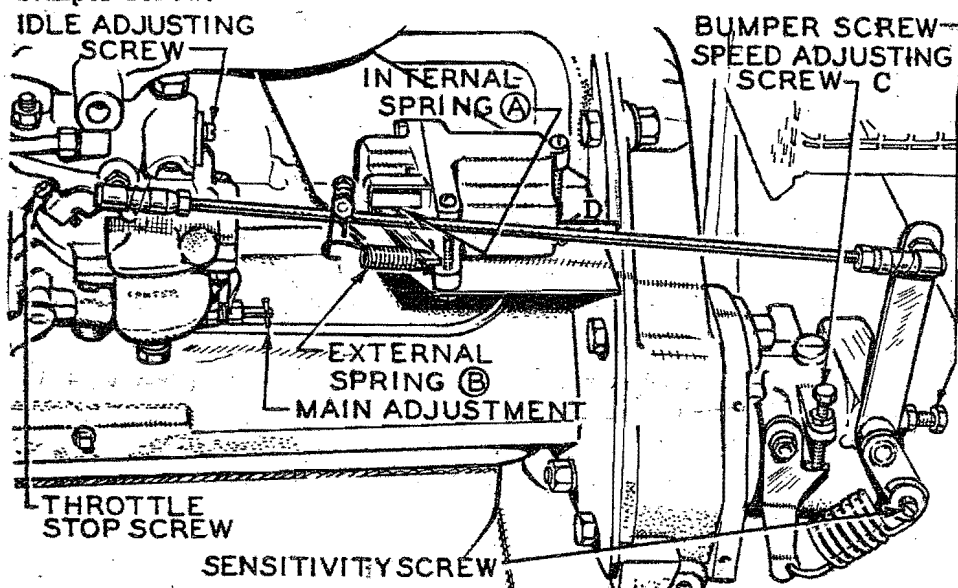

FIG. 10 - GOVERNOR ADJUSTMENT
2. With the plant operating at no load, disconnect the booster external spring (B), Fig. 10. Turn the speed adjusting nut (C) to obtain a frequency reading of 60 cycles for a 60 cycle plant (50 cycles for a 50 cycle plant). The voltage should be within the limits shown in the table below, according to the rated plant voltage shown on the plant name-plate.
3. Connect a full electrical load to the generator. As the electrical load is connected, the governor should act smoothly and quickly to keep the voltage within the limits in the table. However, there should be not more than a spread of 3 cycles between the no load frequency and the full load frequency. For example: if the frequency was 60 cycles at no load, then the full load frequency should be not less than 57 cycles. If the cycle spread is more than 3 cycles, turn the sensitivity screw, Fig. 10, in (clockwise) a half turn. This will, in turn, necessitate a slight compensating speed nut adjustment. Repeat the process until the cycle spread is within 3 cycles and voltage is within the limits shown in the table.
8. After satisfactory performance has been attained under various loads, the booster can be connected. With the plant operating at no load, connect the booster external spring, Fig. 10. Adjust the bracket on the governor link just to the position where there is no tension on the spring.
9. Now connect a full electrical load to the generator. The frequency should stabilize at a point of 1 cycle LOWER THAN the no load frequency. For example: if the no load frequency is 61 cycles, the frequency under full load should be 60 cycles. If there is a drop in the frequency of more than 1 cycle, increase the internal spring tension. Adjust the tension of the internal spring by pulling out on the spring bracket (D), and moving the pin to a different hole.
12. If there is tension on the external spring Fig. 10, when the plant is operating at no load or light load, it may be due to improper adjustment, a leak in the booster diaphragm, tubing or an obstructed vacuum line.